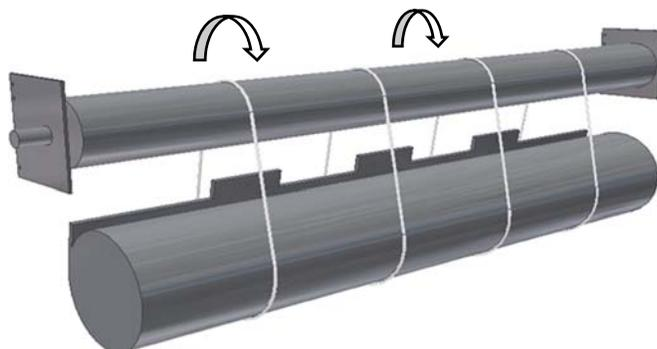

Figure 8.2 - Installing the Curtain
5. Lift the coil until it is just below the shaft. Using appropriately rated straps, sling the coil from the shaft as shown in **Figure 8.2**. Remove the plastic strapping securing the coil at this point.